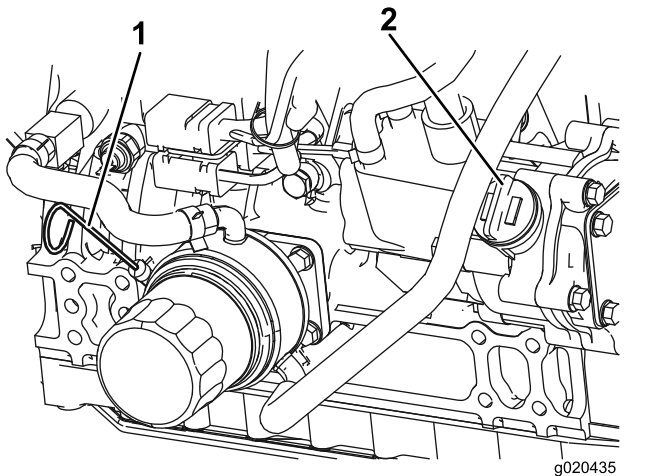

Figure 76
The oil level should be in the safe range (Figure 76).
4. If the oil is below the safe range, remove the fill cap (Figure 76) and add oil until the level reaches the Full mark.